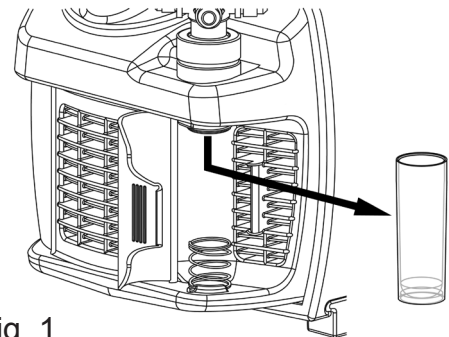

Fig. 1
2. Grab the monitor tube and pull it straight down to release it from the input fitting, then remove it from the machine. (Fig. 1)